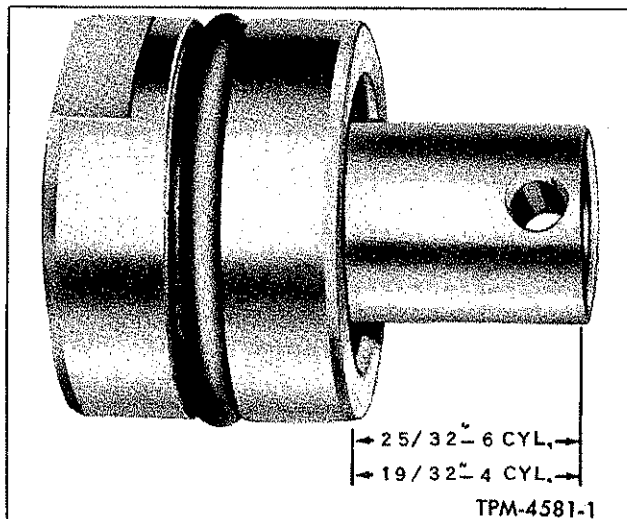

Figure 64—High Speed Piston Preliminary Setting
6. If sleeve and piston have been separated they should be threaded together until a preliminary measurement of $\frac{25}{32}$ " for 6-71 or $\frac{19}{32}$ " for 4-71 engines is obtained (fig. 64).
4. Measure distance from end of piston to end of sleeve (fig. 64). This dimension should be approximately $2\frac{5}{32}$ " for 6-71 or $1\frac{13}{32}$ " for 4-71 engines.
5. Should it be necessary to increase engine RPM the dimension, shown in Figure 64, should be increased. Also, when necessary to decrease engine RPM the dimension, shown in Figure 64, should be decreased. NOTE: Each full turn of piston and sleeve will change engine approximately 100 RPM.